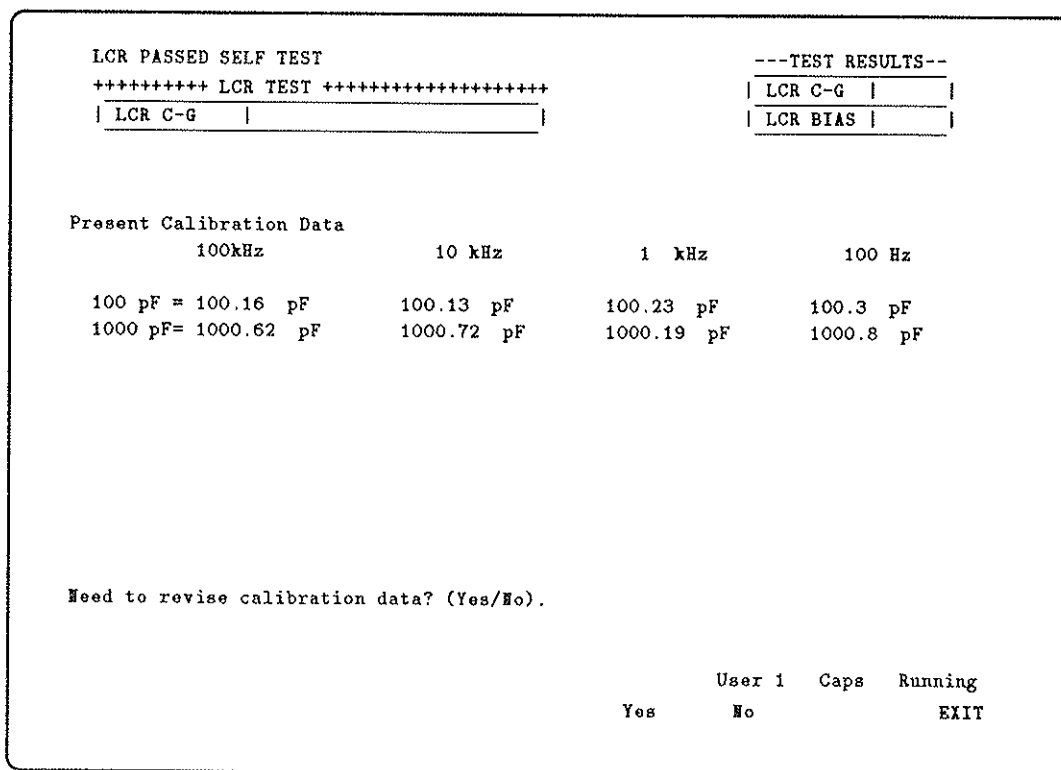

Figure 2-45. LCR C-G Test Page
7. When the Short Self-Test and Zero Short Offset Adjustment completes, the capacitance calibration data of the system calibration module is displayed (see Figure 2-45).